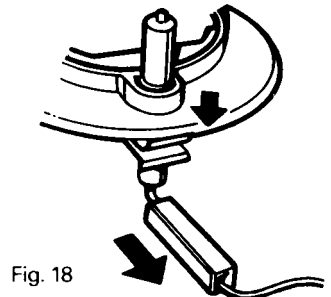

Fig. 18
3. Insert an electrical screwdriver down beneath the underside of the burner body and the electrode securing clip, push the screwdriver down to close the clip and withdraw. Then remove the electrode (see Fig. 18).